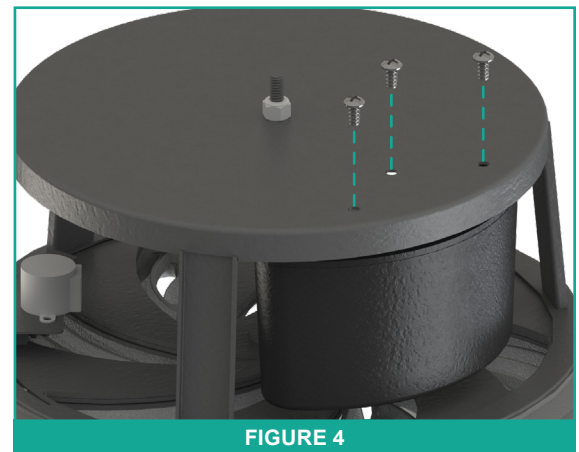

FIGURE 4
3. From the bottom side of the catch pan, use a phillips head screwdriver to remove the three (3) retaining screws securing the battery to the catch pan (**FIGURE 4**).